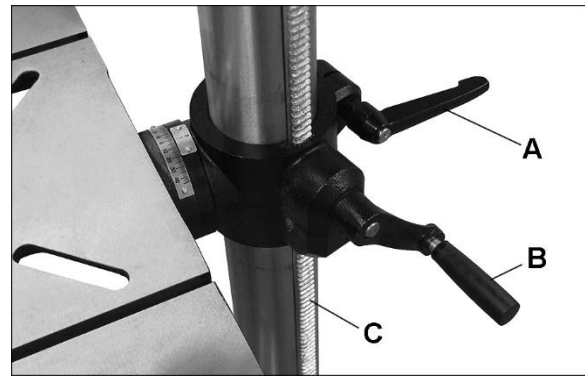

Figure 14
Refer to Figure 14.
Loosen column locking handle (A, Figure 14). Turn table elevating handle (B) to raise or lower table along column rack. Re-tighten locking handle (A) before attempting to drill.